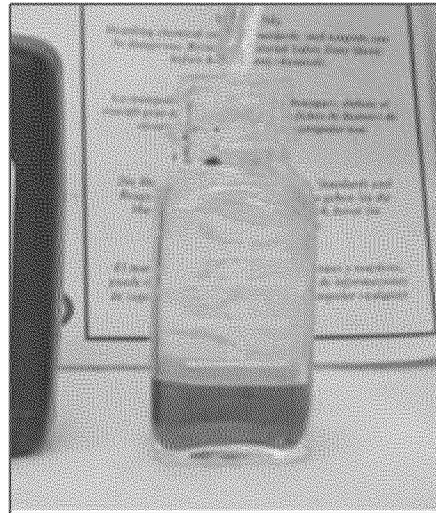

Figure 10. Color Change to Pink/Red after Adding Sulfuric Acid
- (1) IF the solution turns a pink/red color as shown in Figure 10, THEN proceed to Step k.